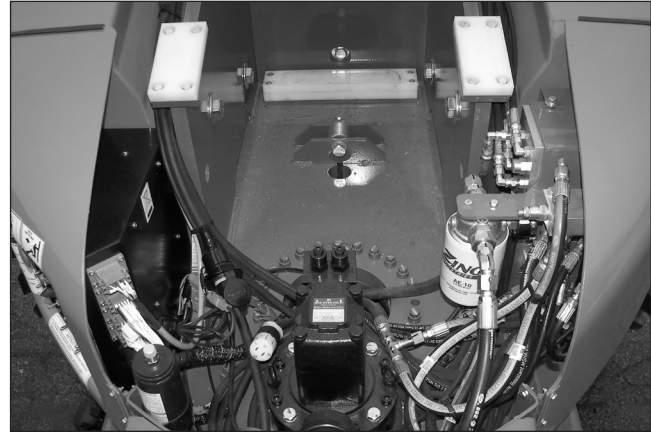

Figure 7.8 – Hoses, Tubes, and Fittings
1. Inspect all hydraulic hoses, tubes, and fittings for wear, leakage, or damage (refer to Figure 7.8).